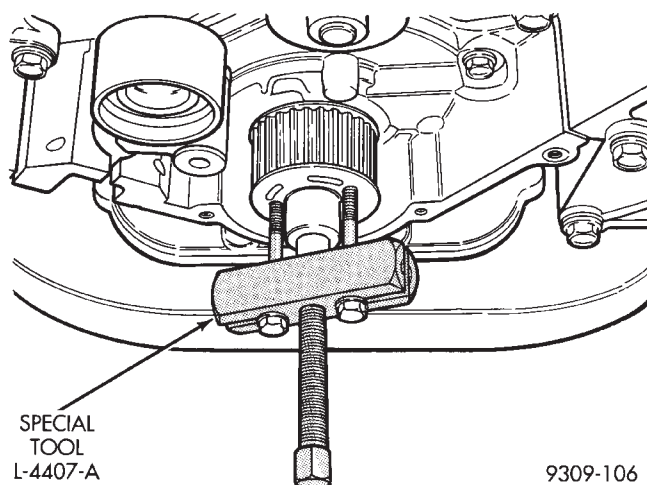

Fig. 76 Crankshaft Sprocket—Removal
- (1) With timing belt removed. Refer to procedure outlined in this section.
- (2) Remove crankshaft sprocket using Special Tool L-4407-A (Fig. 76).